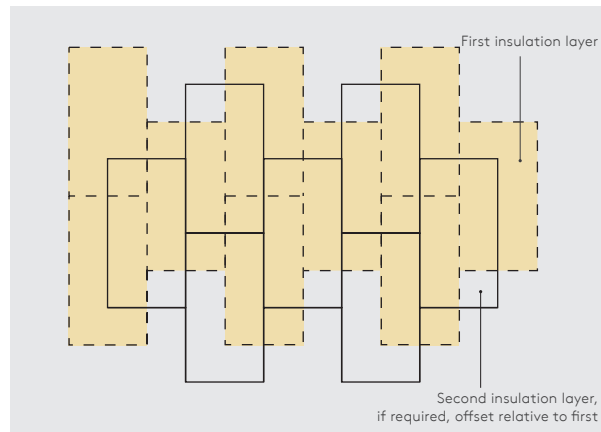

Figure 2 - Offsetting of Multiple Insulation Layers
- If two layers of insulation are required, they should be horizontally offset relative to each other so that, as far as possible, the board joints in the two adjacent layers do not coincide with each other (see Figure 2).